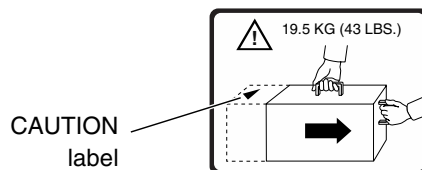

FIGURE B-13 Power Supply Weight-Information Label
The power supply weight-information label, shown in FIGURE B-13, is placed at the internal top-front of each of the six (6) power supply units.